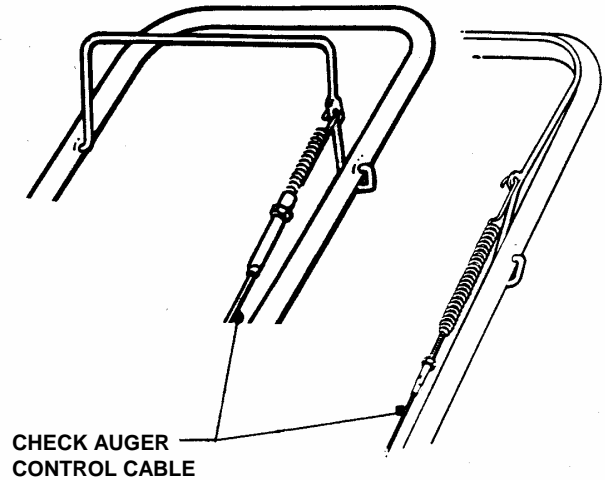

FIGURE 3.3
1. Visually check cable for fraying, kinking or severed cable strands. Replace cable and adjust tension before operating snow thrower. See Figure 3.3.